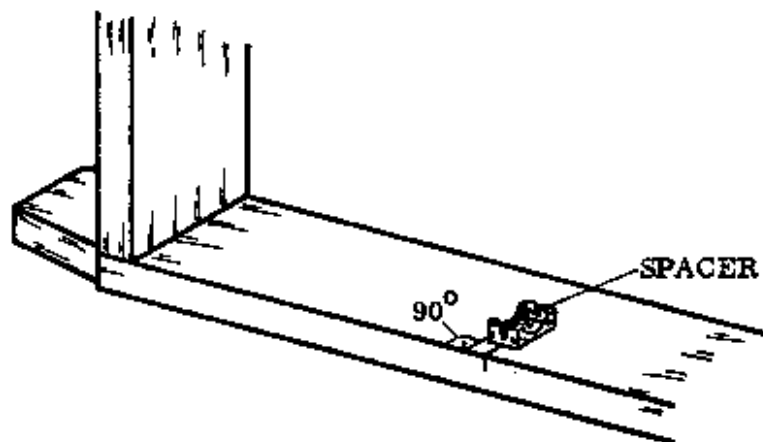

Fig. 2
- c. Fix the bottom spacer on the cill (Fig. 2) at right angles to the face of the frame. The frame must be painted before the spacers are fitted.